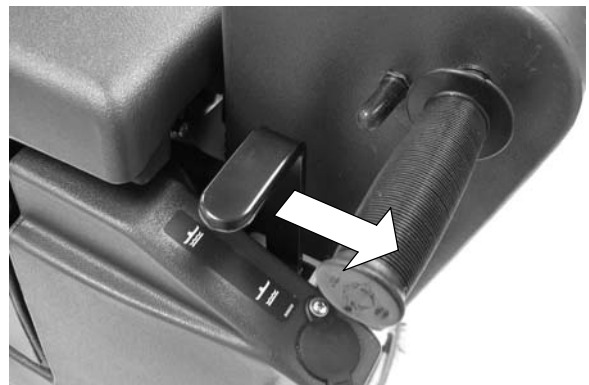

FIG. 3
2. Raise squeegee mount bracket. Pull back on squeegee lift lever to raise squeegee mount bracket (Figure 3).